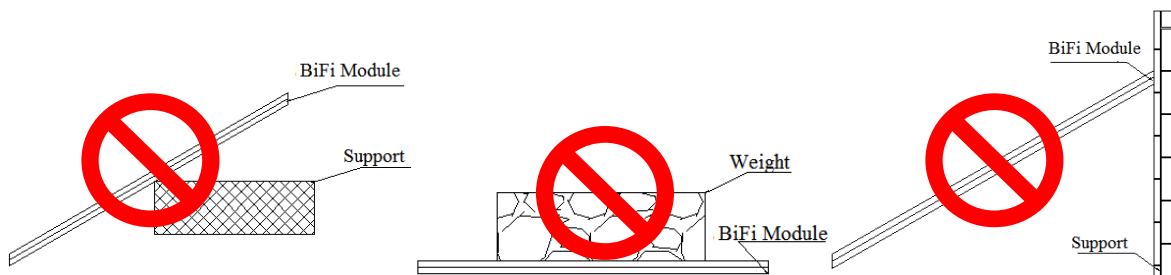

Figure 4 Modules stack illustration
6.1.5 Unpacking the package should refer to the following instructions as Figure 4, Any rude operation or use crowbar unclench into the boxes are prohibited.